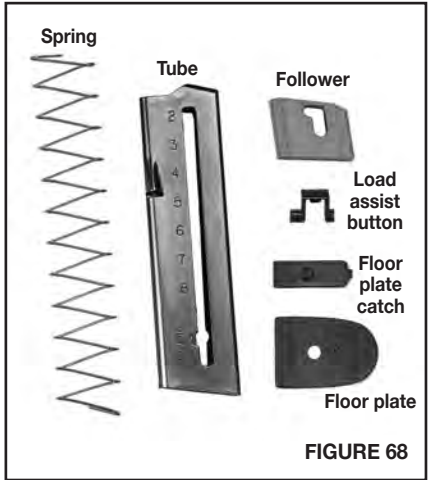

FIGURE 68
- FIGURE 68 shows the component parts that make up the magazine.